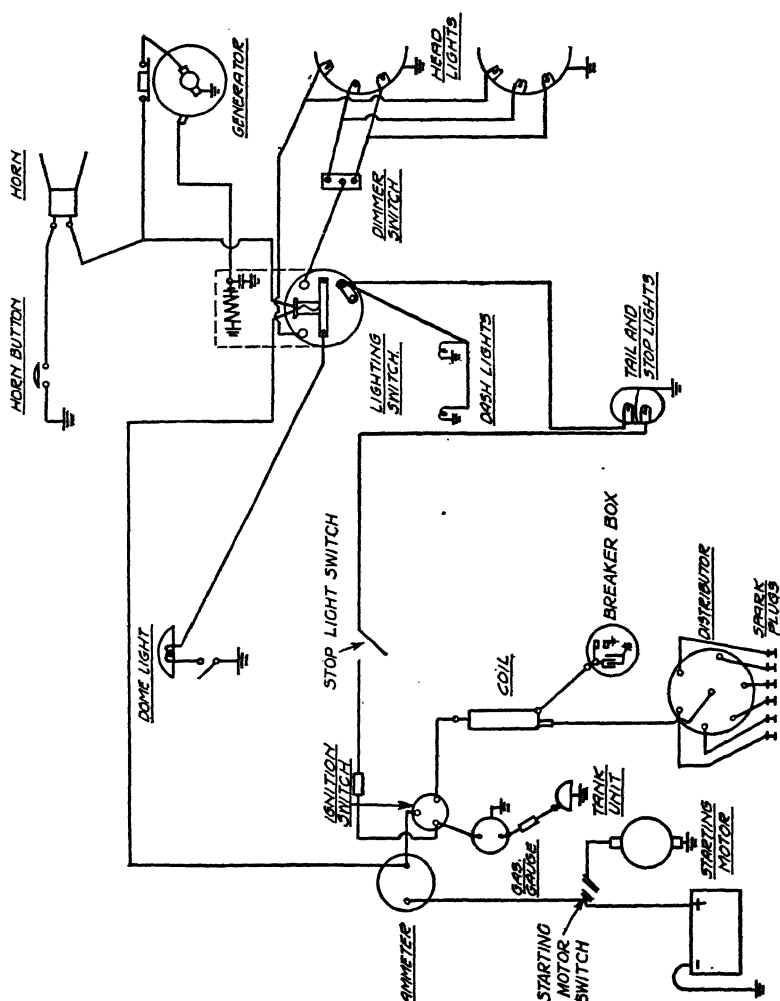
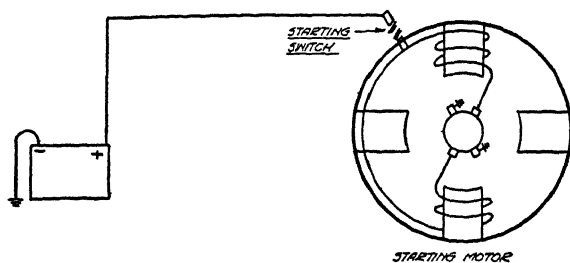
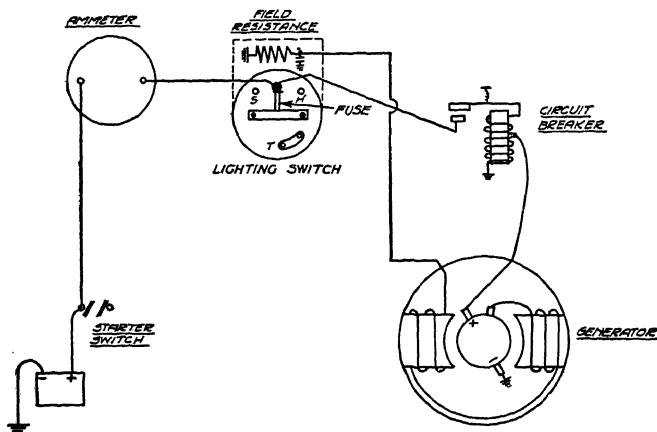
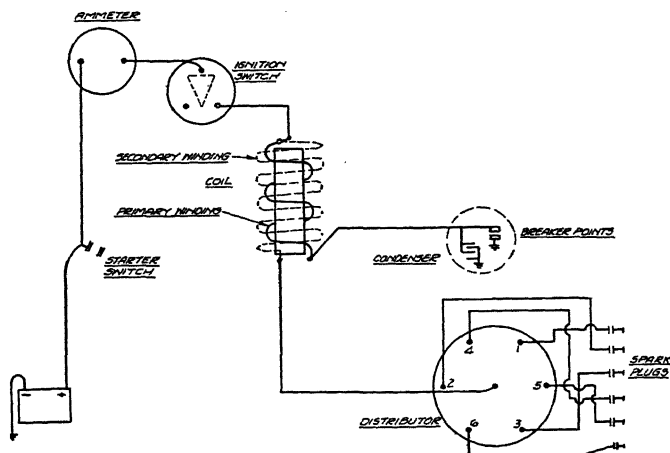

Fig. 13, Chevrolet Car Wiring Diagram
Fig. 14. Chevrolet Starting Motor Circuit
Fig. 15. Chevrolet Generator and Charging Circuit Diagram
Fig. 16. Chevrolet Ignition Wiring Diagram
Some examples of changes in convention in illustrating different features of wiring appear in Fig. 13, the Chevrolet car wiring diagram. In this case it will be noted that the two wires are joined without any dot at the juncture to show that they are tied together, while wires which cross each other are shown as crossing by means of a conventional loop or hopover. These points are illustrated by the wire which runs from the horn to the lighting switch, and is joined with another lead running over to the generator. The Buick wiring diagram, Fig. 17, shows the juncture of two wires with a dot at their juncture, and also makes use of the hopover where two wires cross
*Car Circuits.* The most usual circuits of the passenger car are the starting motor, the generator, and the ignition circuit, which are shown combined in Fig. 13, and separately in Figs. 14, 15, and 16. Aside from these circuits there are also the horn circuit, the light
The starting motor, generator, and ignition circuit shown in Figs. 14, 15, and 16, may be picked out in Fig. 13, where they are shown combined in one diagram. The student will notice of course that the
*Internal Circuits.* Wiring diagrams do not always show the internal circuits of the different units. For instance the generator in Fig. 13 shows two brushes running to the commutator, a wire lead running off from one of the brushes to the circuit breaker or the relay on the top of the generator, and the other lead grounded. The same generator is illustrated in Fig. 15 somewhat differently, inasmuch as it has the internal circuit shown in more detail.
One of the simplest circuits to trace out is that of the starting motor as illustrated in Fig. 14. Here it will be noted that the negative side of the battery is grounded and the positive side is connected directly to the starting switch, from which point, when the switch is closed, current follows to the starting motor field winding, passes through the two brushes connected to the field winding, on to the commutator and from the commutator through the commutator windings and finally is grounded on the two grounded brushes.
In the case of the generator circuit illustrated in Fig. 15, the circuit goes from the negative side to the ground. From the positive side it goes to the starter switch and from that point a lead is taken off to the back of the ammeter. After passing through the ammeter it is conducted to the lighting switch, from which point it is, of course, distributed as needed through the several circuits not shown here. From the lighting switch a lead is run to one of the contact points of the circuit breaker, which is shown open. When the automobile is started, operating the generator builds up a field voltage and this in turn has the effect of exerting an electro-magnetic pull on the movable arm of the circuit breaker relay. This is shown above the generator. This has the result of closing the contact points and when they are closed the current will proceed to flow through the contact points to the lighting switch and thence to the ammeter. The current drawn by the lights will not be registered on the ammeter as passing through it to charge the battery. What does happen is that the ammeter shows a falling off of charge because of the amount of current going to the lights. The difference then, between the maximum charging rate without lights and the lowered rate with lights, is the amount which is going to the lights.
When making a study of the ignition circuit as shown in Fig. 16, it will be noted that the path of the current from the battery to the ignition switch is similar to that of Fig. 15, representing the generator circuit. In the case of the ignition wiring diagram, there are in reality two separate circuits, one of these being the secondary or high-tension circuit and the other being the primary winding or primary circuit. In this wiring diagram again we see the conventional use of the condenser illustration.